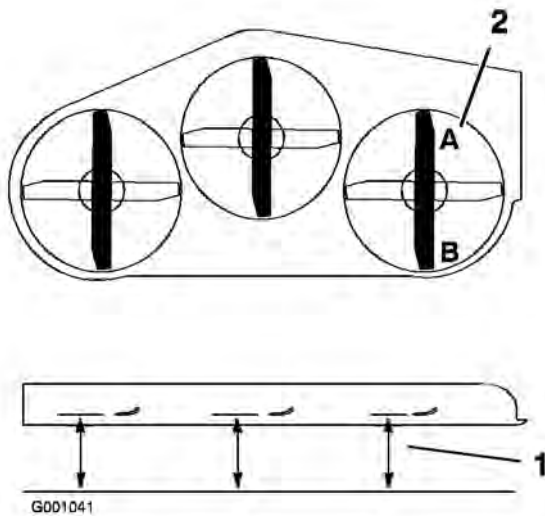

Figure 76
2. Position one blade front-to-rear. Measure at **A** and **B** locations from a level surface to the cutting edge of the blade tips (Figure 76).
4. Position the blades front-to-rear. Measure at **C** and **D** locations (Figure 76) from a level surface to the cutting edge of the blades.